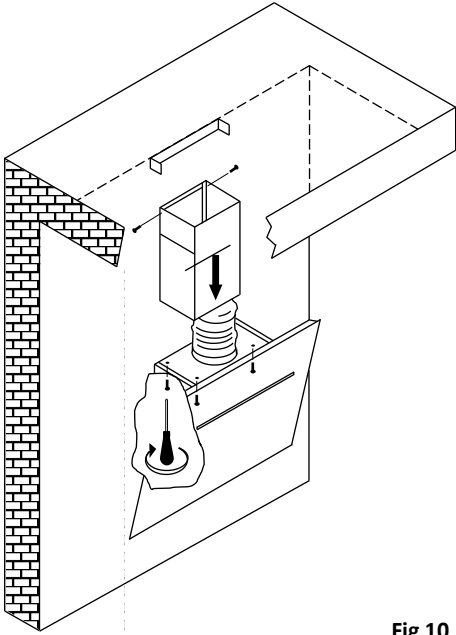

Fig 10
8. Fix chimney to the Hamlet and wall (Fig 10).